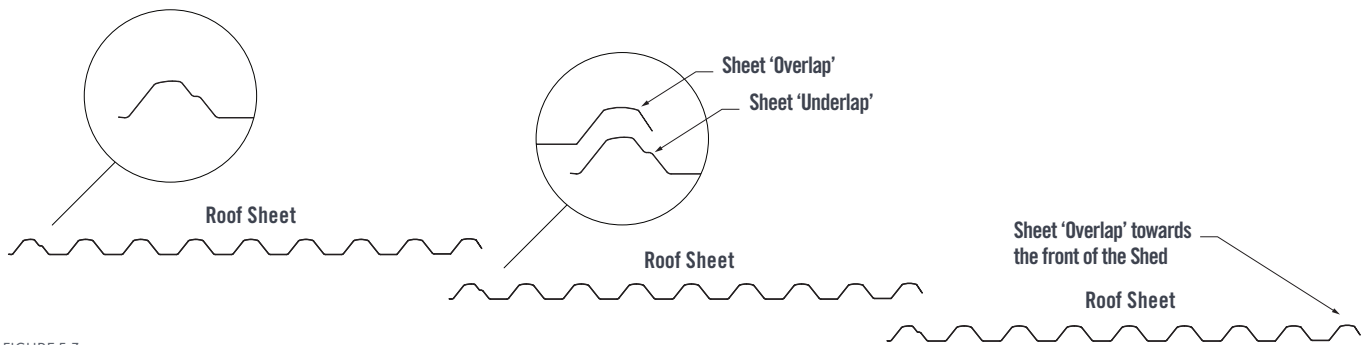
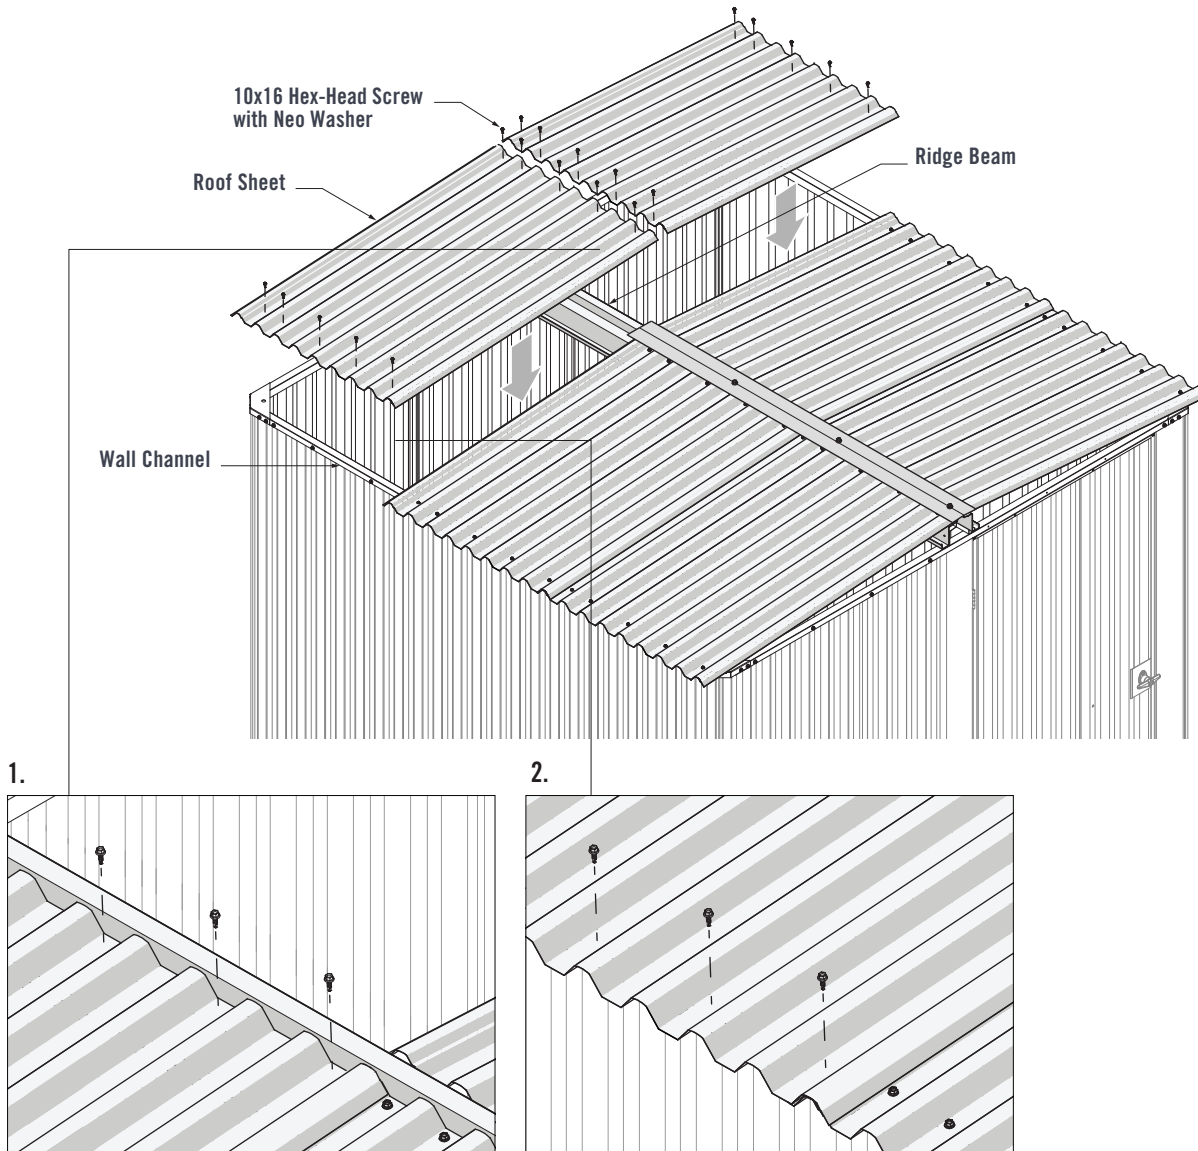

FIGURE 5.3
FIGURE 5.6
Refer to the sheet layout below when installing Roof Sheets (Figure 5.3).
Refer to Figure 5.3 for Sheet layout. Lay the next Roof Sheet onto the Ridge Beam and Wall Channel, ensuring the overlap end of the Roof Sheet is facing the front of the shed (Figure 5.6).
1. Ensure the Roof Sheet is hard against the step of the Ridge Beam. Fasten five 10x16 Hex-Head Screws with Neo Washers through the pans of the Roof Sheet and into the Ridge Beam (Figure 5.6).
2. Fasten five 10x16 Hex-Head Screws with Neo Washers through the pans of the Roof Sheet and into the Wall Channel (Figure 5.6).